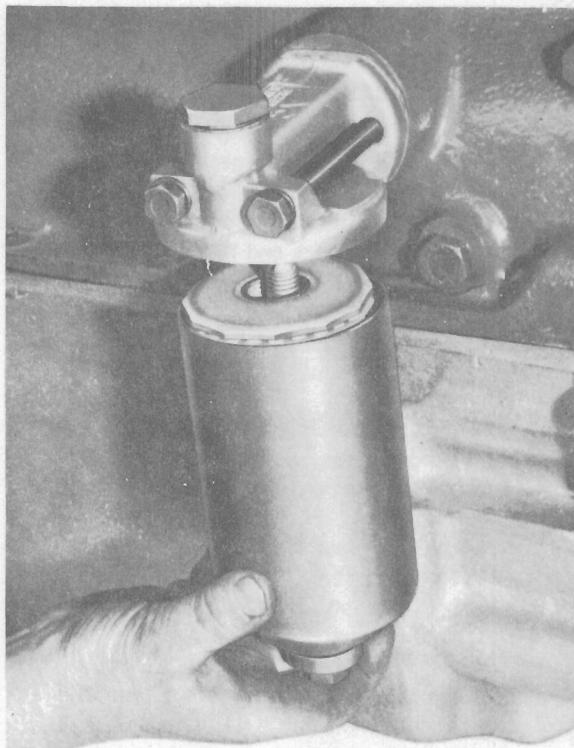

Fig. L.4.
2. Lower filter bowl clear (see Fig. L.4).